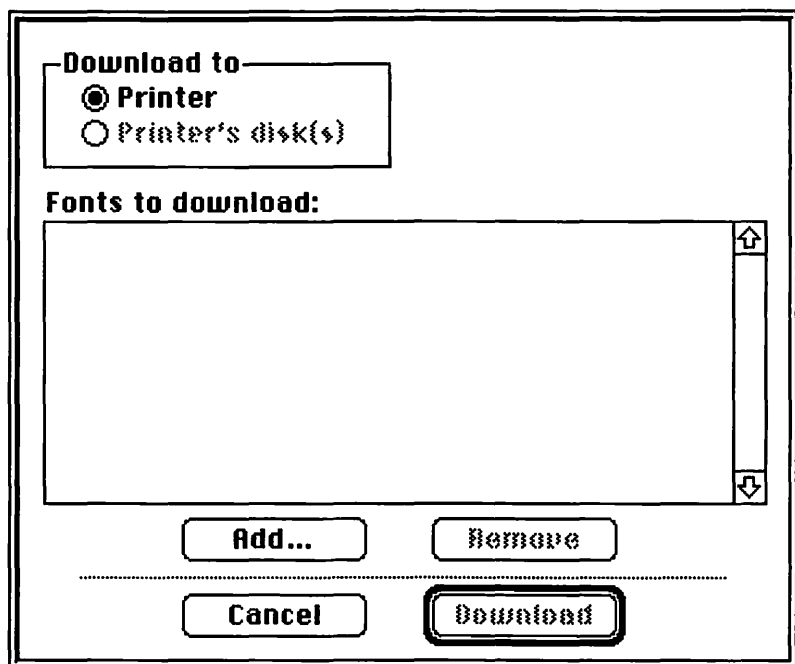

Figure 20 *LaserWriter Font Utility Font Download dialog box.*
3. Select the Download Fonts... command from the File menu. The Font Download dialog box will be displayed, as shown in Figure 20.